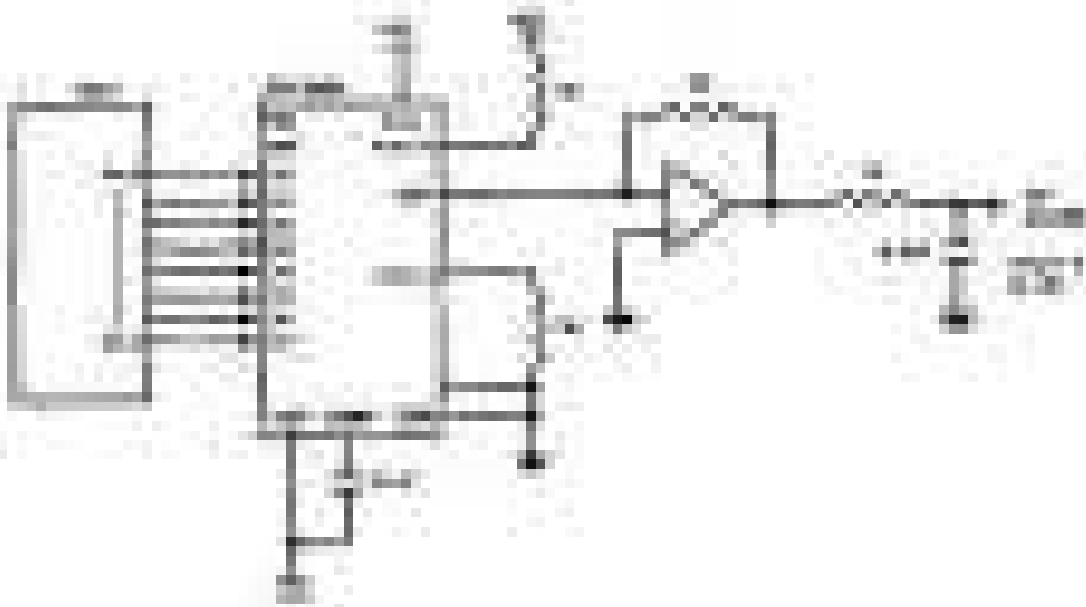

Figure 5.12 8051 Connection to DAC808
- The 8051 connection to DAC0808 is as shown in the below figure 5.12.
In order to generate a stair-step ramp, set up the circuit in figure 5.12 and connect the output to an oscilloscope. Then write a program to send data to the DAC to generate a stair-step ramp.